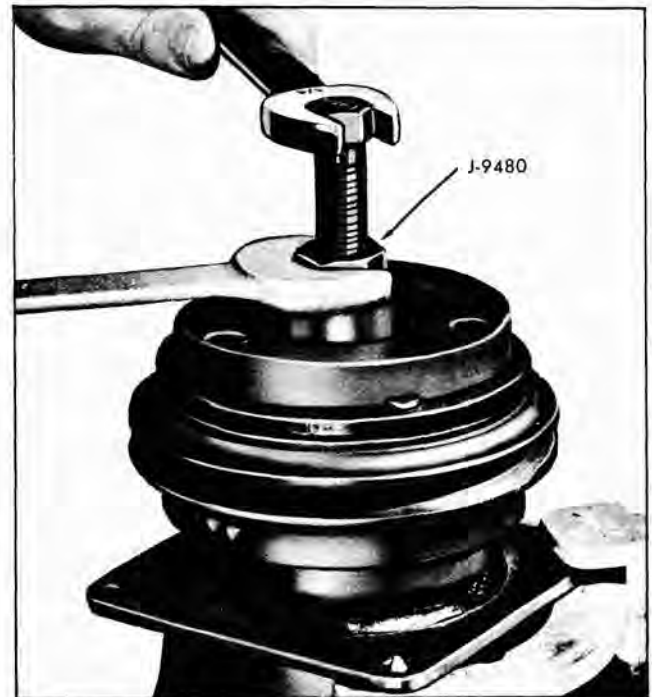

Fig. 5-53 Installing Hub and Drive Plate Assembly
7. Install J-9480 and press until there is approximately .002"-.057" ( $\frac{1}{32}$ "- $\frac{1}{16}$ "") space between the frictional faces on the pulley and drive plate (Fig. 5-53).